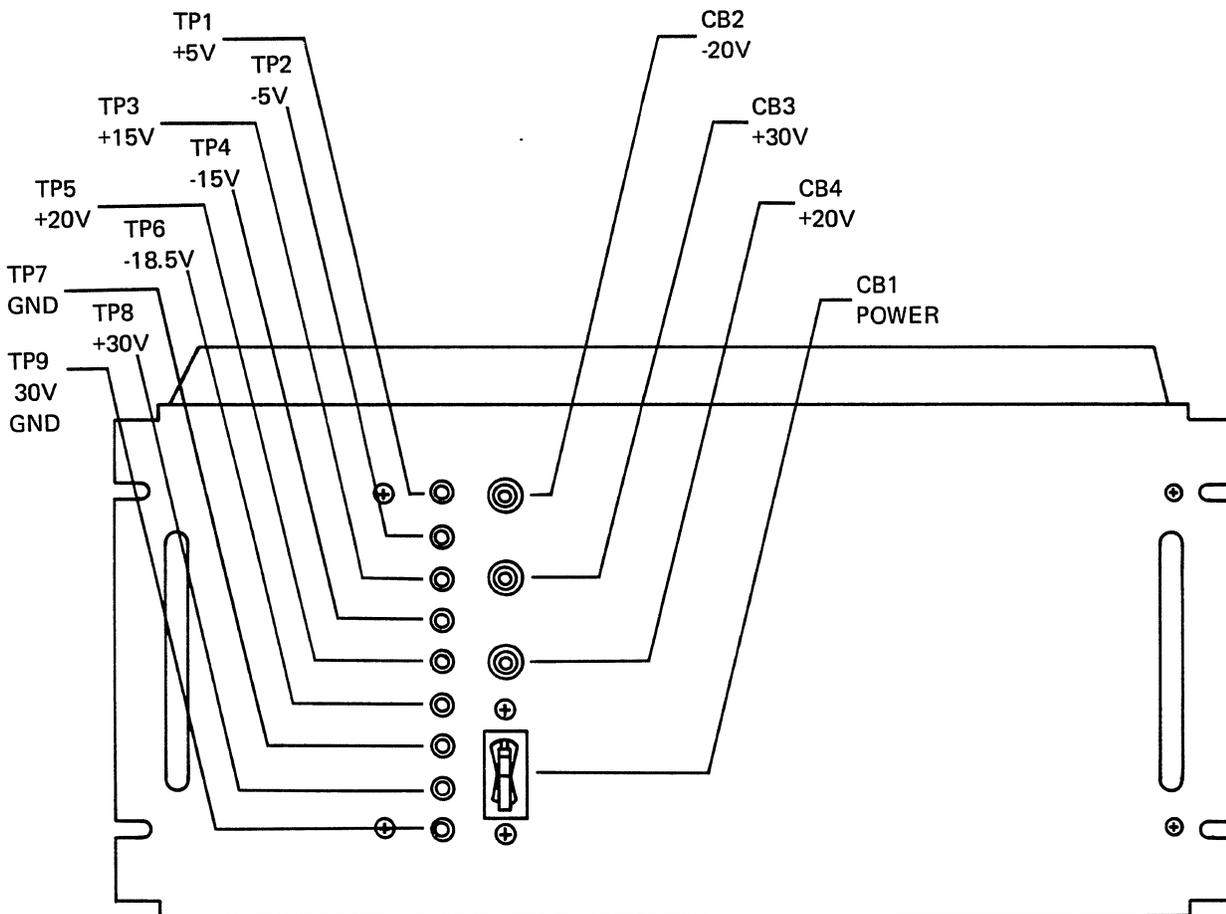

Figure 3-4. Logic Power Supply (CC545 G/H)
- Compare the Logic Power Supply for the CC545 G/H, figure 2-4, publication number 62940018 (also included as figure 3-4 of this manual), with the +20 Volt Power Supply for the CC545 C, D, E, and F, figure 6-10, publication number GF62952600. Note the additional voltages provided in the Logic Power Supply for the CC545 G/H.